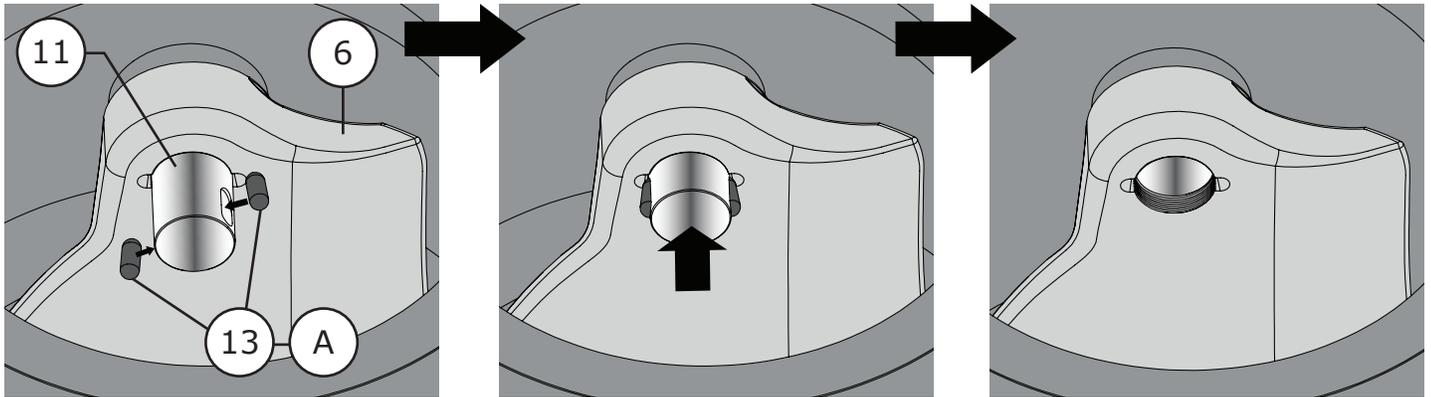

Figure 52 16 Inch Drive Shaft Pins Installation
- 7 Apply Permatex® Nickel Anti-Seize or equivalent (Key A) to the shafts (Keys 9 & 11) and pins (Keys 10 & 13). Install the pins (Keys 10 & 13) and push the shafts back in to the ears of the balls so that the pins catch in place. Refer to Figures 52 & 53.